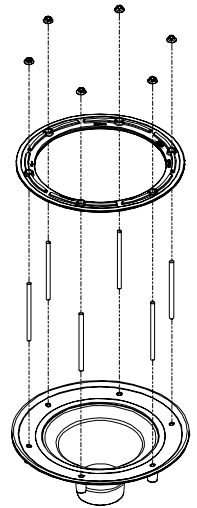

Fig. 1
3. Install and secure a waterproofing membrane to the roof drain body with the secondary clamping collar ( Fig 1 ).